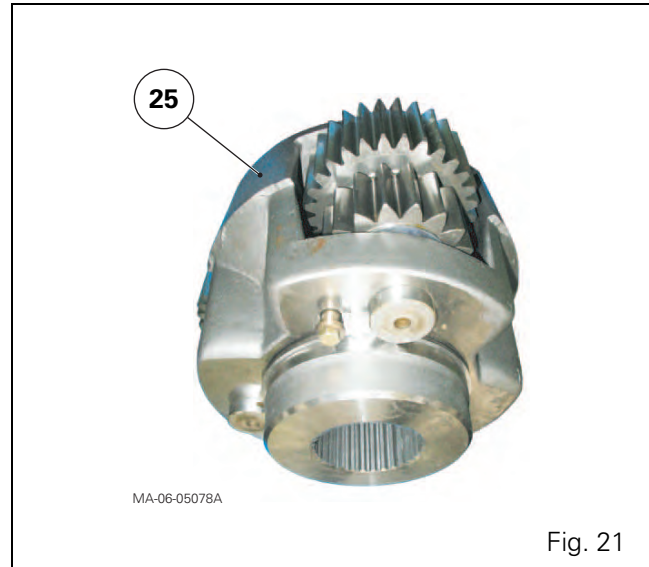

Fig. 21
61. Refit the ring gear (15) (see § D).
62. Check for the presence of washer (16).
Refit the planet carrier assembly (25) (Fig. 21).
63. If necessary, shim the axle shaft (2) bearings (see § K).